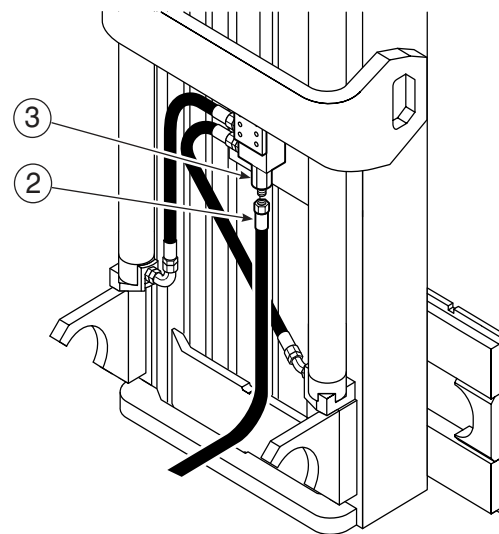

Figure 32. Valve Cartridge Service.
2. Remove the truck supply hose from the valve cartridge. See Figure 32. Plug the hose.